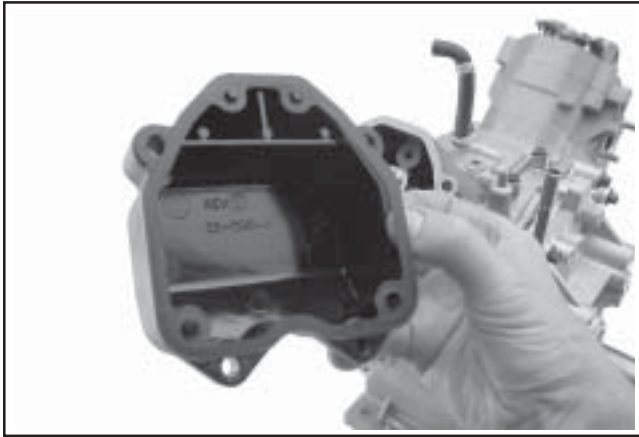

Figure 11-39. Installing Valve Cover Gaskets.
2. Install new valve cover gaskets onto the valve covers. See Figure 11-39.